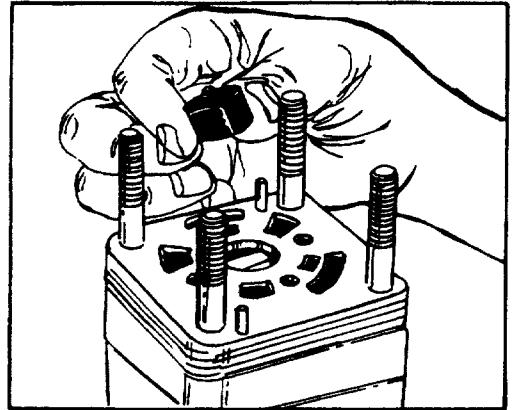

FIGURE 15.
- 16. Remove hex. drive assembly (10) from drive link (16). See figure 15.